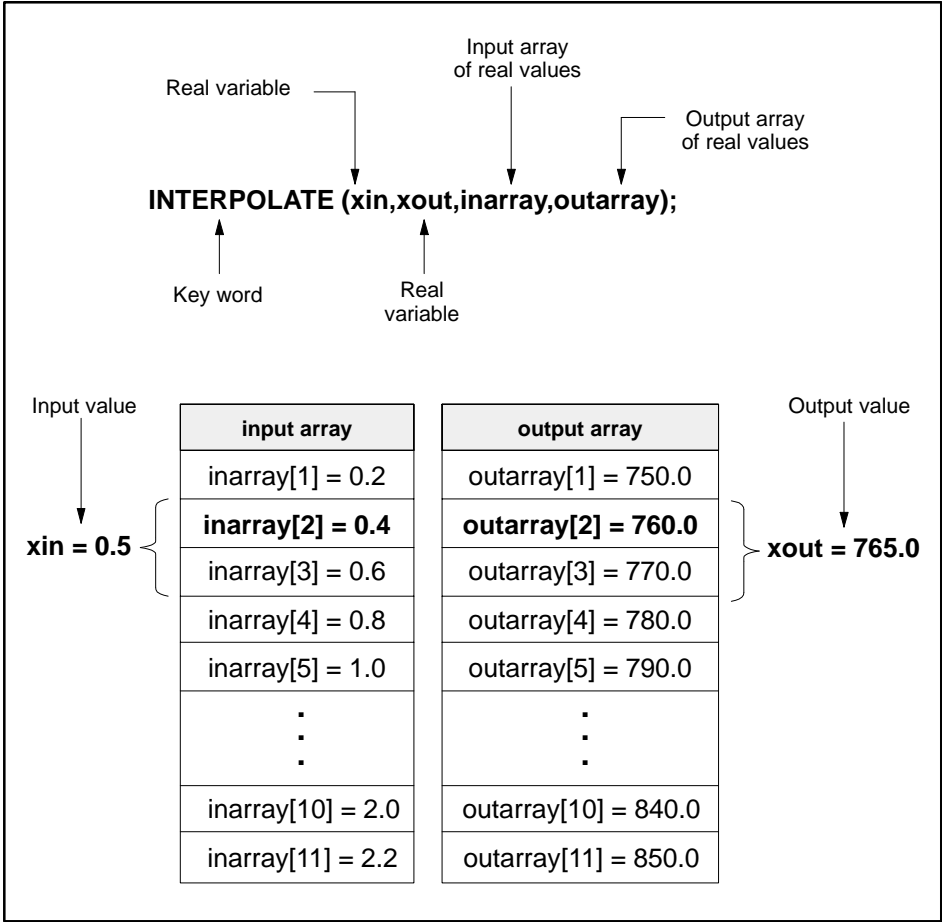

Figure 11-21 INTERPOLATE Procedure
- The output variable is a real variable that stores the result of the INTERPOLATE procedure. See the example in Figure 11-21.